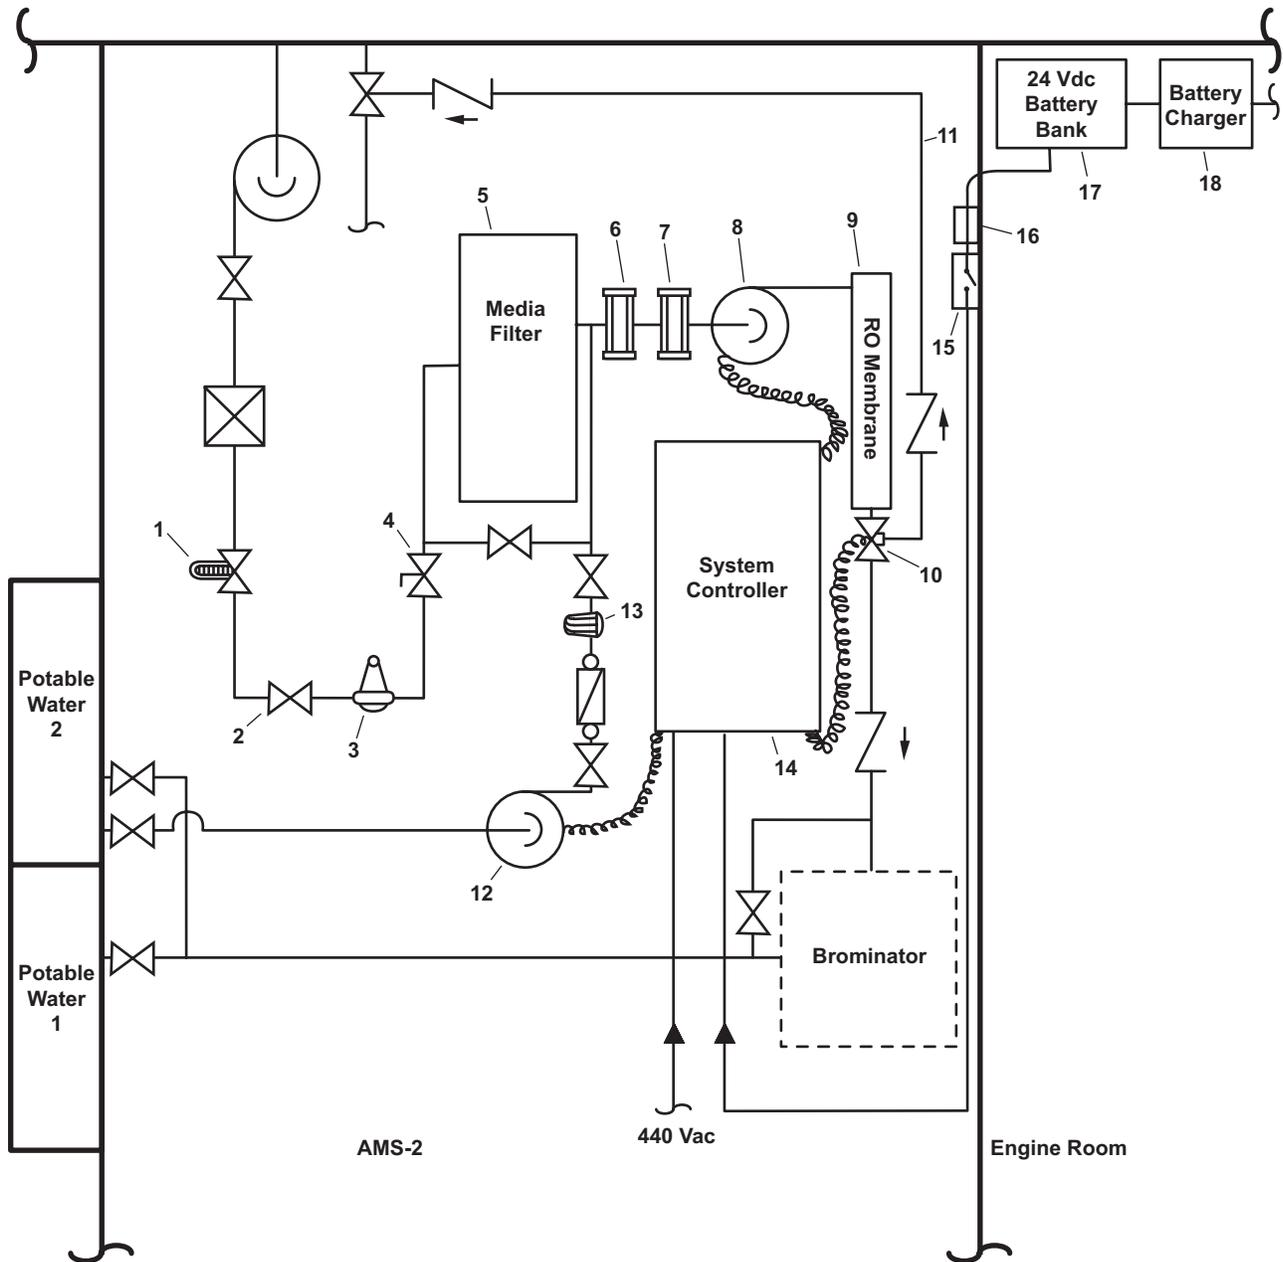

Figure 3. ROWPU System Diagram
Table 1 outlines the major functional components of the ROWPU system. The item number corresponds to the callouts in figure 3. The components are outlined in a logical fashion that will allow the reader to understand the basic operating principles of the ROWPU. The ROWPU contains two units. ROWPU 1 (the starboard unit) is fitted with two reverse osmosis membranes, and ROWPU 2 (the port unit) has only one membrane.
Table 1. Major Functional Components of the ROWPU System (Refer to Figure 3)
| Item No. (Refer to Figure 3) | Nomenclature | Description |
Table 1. Major Functional Components of the ROWPU System (Refer to Figure 3) (continued)
| 10 | Solenoid Operated 3-Way Diverter Valve | The solenoid operated 3-way diverter valves are controlled by the system controllers (figure 3, item 14). The controllers sense the salinity of the product water output by the membranes. If the product water salinity is within tolerances, the product water is sent to the brominator and on to the potable water tanks. If product water salinity is too high, the product water is diverted and sent overboard as ROWPU system product brine. |